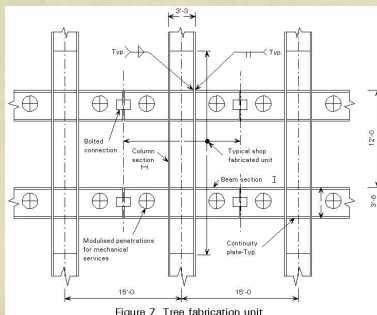

Figure 7 Tree fabrication unit
- ❖ The use of a prefabricated Framed Tube "Tree" element (Figure 7) where all welding can be done in the shop in a horizontal position has made the steel Framed Tube more practical and efficient.